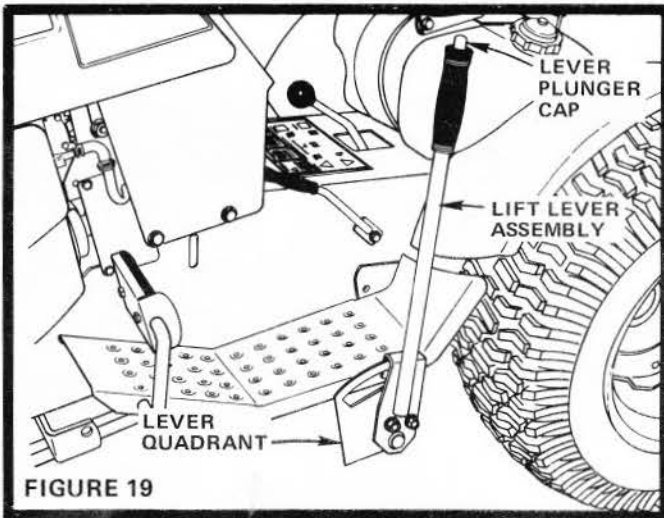

FIGURE 19
1. Depress Lever Plunger Cap (Fig. 19).